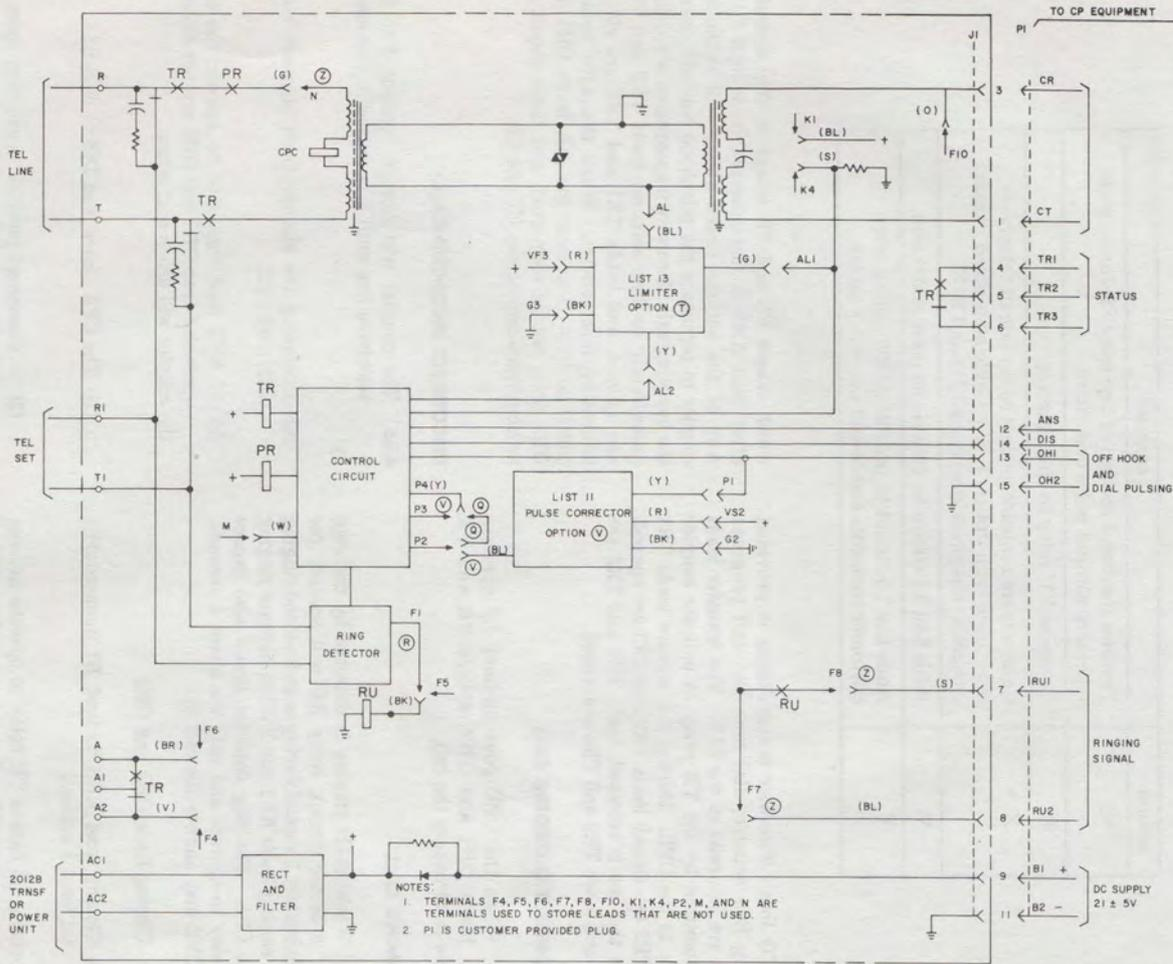

Fig. 7 KS-20721 Station Coupler, Internal Wiring Options
**4.01** The KS-20721, List 1 station coupler (Fig. 7) consists of a 20-Hz ringing signal detector operating ringup (RU) relay, a supervisory control circuit operating line transfer (TR) relay, dial pulsing (PR) relay, and CPC relay, a transmission circuit consisting of two transformers in tandem, a peak voltage limiter, and a power supply rectifier and filter circuit.